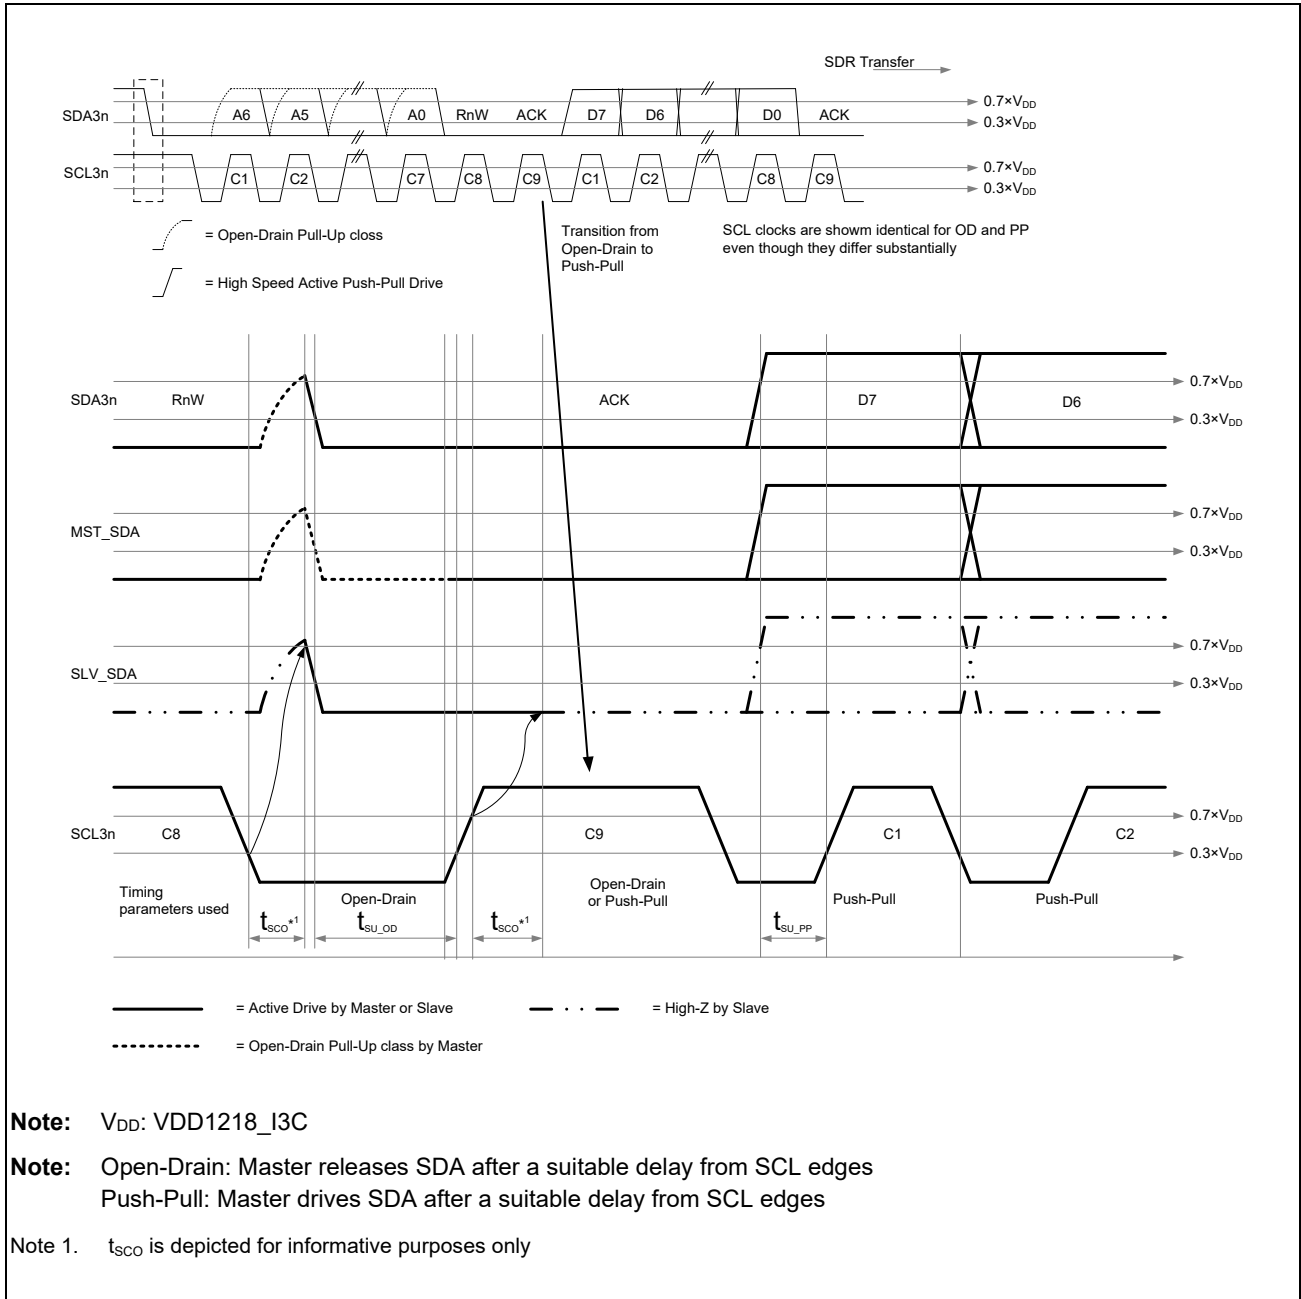
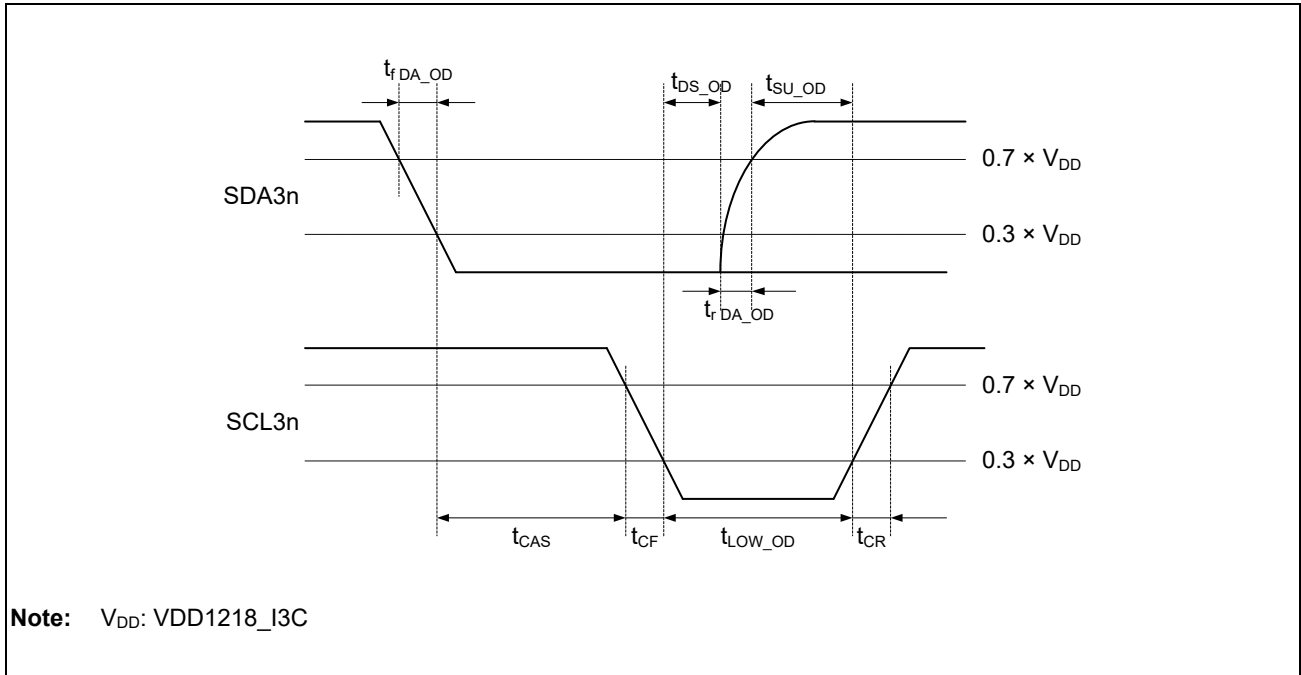

Figure 3.5-39 I3C Data Transfer – ACK by Slave
Figure 3.5-40 I3C START Condition Timing
| SCL3n clock Low period | t_{LOW_OD} | 200 | — | ns | Figure 3.5-40 | 1, 2 | |
| | $t_{DIG_OD_L}$ | $t_{LOW_ODmin} + t_{DA_ODmin}$ | — | | Figure 3.5-40 | — | |
| SCL3n clock High period | t_{HIGH} | — | 41 | ns | Figure 3.5-40 | 3, 4 | |
| | t_{DIG_H} | 36 (when 1.8 V) 40 (when 1.2 V) | $t_{HIGH} + t_{CF}$ | ns | Figure 3.5-40 | — | |
| SDA3n signal fall time | t_{DA_OD} | t_{CF} | 33 | ns | Figure 3.5-40 | — | |
| SDA3n data setup time open drain mode | $V_{DD1218} = 1.8\text{ V}$ $V_{DD1218} = 1.2\text{ V}$ | t_{SU_OD} | 12 | — | ns | Figure 3.5-39, Figure 3.5-40 | 1 |
| | | | 13.9 | — | ns | Figure 3.5-39, Figure 3.5-40 | |
| Clock after START (S) condition | t_{CAS} | 38.4 | For ENTAS0: 1 μ | seconds | Figure 3.5-40 | 5, 6 | |